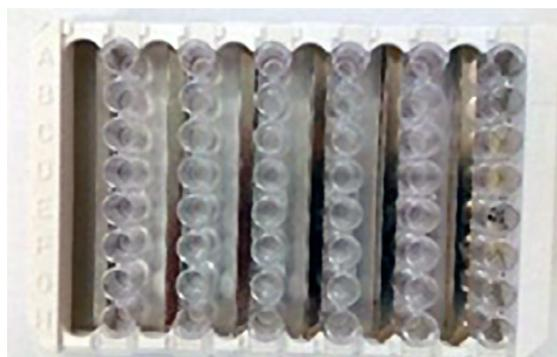

Figure 2. Magnetic plate with breakaway strips
- White walled 96-well plate. Use breakaway strips if performing manual washes (performing manual washes with breakaway strips will only allow you to test 48 wells instead of 96 wells; see **Figure 2**)
- 2 mL low protein binding tubes (VWR, ref. 022431102)